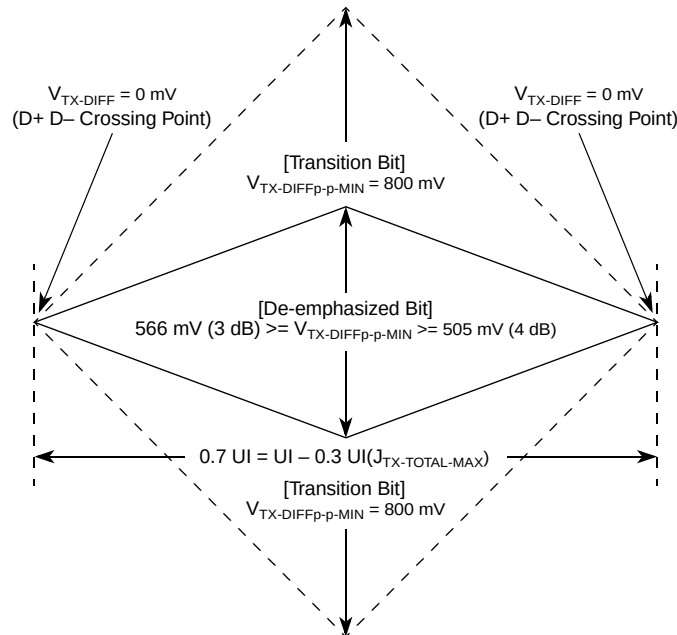
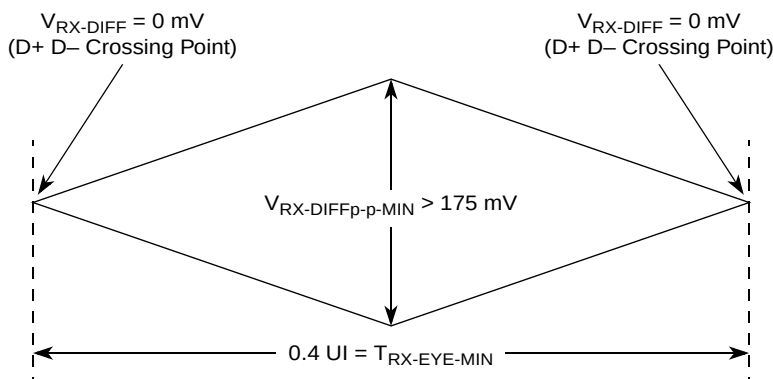
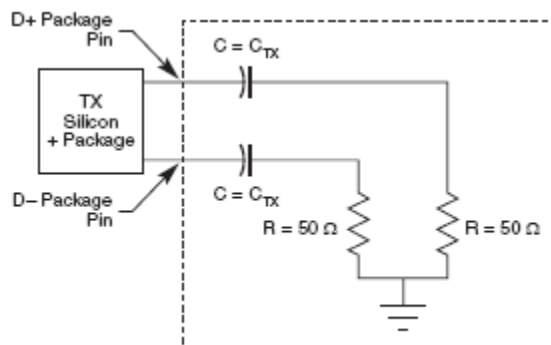

Figure 50. Minimum Transmitter Timing and Voltage Output Compliance Specifications
Figure 51. Minimum Receiver Eye Timing and Voltage Compliance Specification
Figure 52. Compliance Test/Measurement Load
2. Specified at the measurement point into a timing and voltage compliance test load as shown in Figure 52 and measured over any 250 consecutive TX UIs. (Also refer to the transmitter compliance eye diagram shown in Figure 50.)
4. The transmitter input impedance shall result in a differential return loss greater than or equal to 12 dB and a common mode return loss greater than or equal to 6 dB over a frequency range of 50 MHz to 1.25 GHz. This input impedance requirement applies to all valid input levels. The reference impedance for return loss measurements is 50 Ω to ground for both the D+ and D- line (that is, as measured by a vector network analyzer with 50- Ω probes, see Figure 52). Note that the series capacitors, C_{TX} , is optional for the return loss measurement.
5. Measured between 20%–80% at transmitter package pins into a test load as shown in Figure 52 for both V_{TX-D+} and V_{TX-D-} .
The TX eye diagram in Figure 50 is specified using the passive compliance/test measurement load (see Figure 52) in place of any real PCI Express interconnect + RX component. There are two eye diagrams that must be met for the transmitter. Both diagrams must be aligned in time using the jitter median to locate the center of the eye diagram. The different eye diagrams differ in voltage depending on whether it is a transition bit or a de-emphasized bit. The exact reduced voltage level of the de-emphasized bit is always relative to the transition bit.
- Specified at the measurement point and measured over any 250 consecutive UIs. The test load in Figure 52 should be used as the RX device when taking measurements (also refer to the receiver compliance eye diagram shown in Figure 51). If the clocks to the RX and TX are not derived from the same reference clock, the TX UI recovered from 3500 consecutive UI must be used as a reference for the eye diagram.
- The receiver input impedance shall result in a differential return loss greater than or equal to 15 dB with the D+ line biased to 300 mV and the D- line biased to -300 mV and a common mode return loss greater than or equal to 6 dB (no bias required) over a frequency range of 50 MHz to 1.25 GHz. This input impedance requirement applies to all valid input levels. The reference impedance for return loss measurements for is 50 Ω to ground for both the D+ and D- line (that is, as measured by a vector network analyzer with 50- Ω probes, see Figure 52). Note that the series capacitors, C_{TX} , is optional for the return loss measurement.
The RX eye diagram in Figure 51 is specified using the passive compliance/test measurement load (see Figure 52) in place of any real PCI Express RX component. In general, the minimum receiver eye diagram measured with the compliance/test measurement load (see Figure 52) is larger than the minimum receiver eye diagram measured over a range of systems at the input receiver of any real PCI Express component. The degraded eye diagram at the input Receiver is due to traces internal to the package as well as silicon parasitic characteristics which cause the real PCI Express component to vary in impedance from the compliance/test measurement load. The input receiver eye diagram is implementation specific and is not specified. RX component designer should provide additional margin to adequately compensate for the degraded minimum Receiver eye diagram (shown in Figure 51) expected at the input receiver based on an adequate combination of system simulations and the return loss measured looking into the RX package and silicon. The RX eye diagram must be aligned in time using the jitter median to locate the center of the eye diagram.
The reference impedance for return loss measurements is 50 Ω to ground for both the D+ and D- line (that is, as measured by a Vector Network Analyzer with 50 Ω probes—see Figure 52). Note that the series capacitors, $C_{PEACCTX}$, are optional for the return loss measurement.
The AC timing and voltage parameters must be verified at the measurement point, as specified within 0.2 inches of the package pins, into a test/measurement load shown in Figure 52.